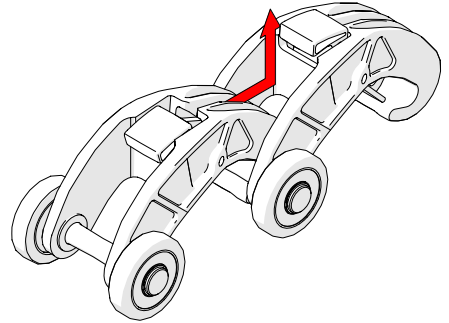

Fig. 73 - Slide link forward and lift
2. While pressing the button, slide the QuickLink forward and up, clearing the hook of the QuickLink from the 2nd link's axle (Fig. 73).